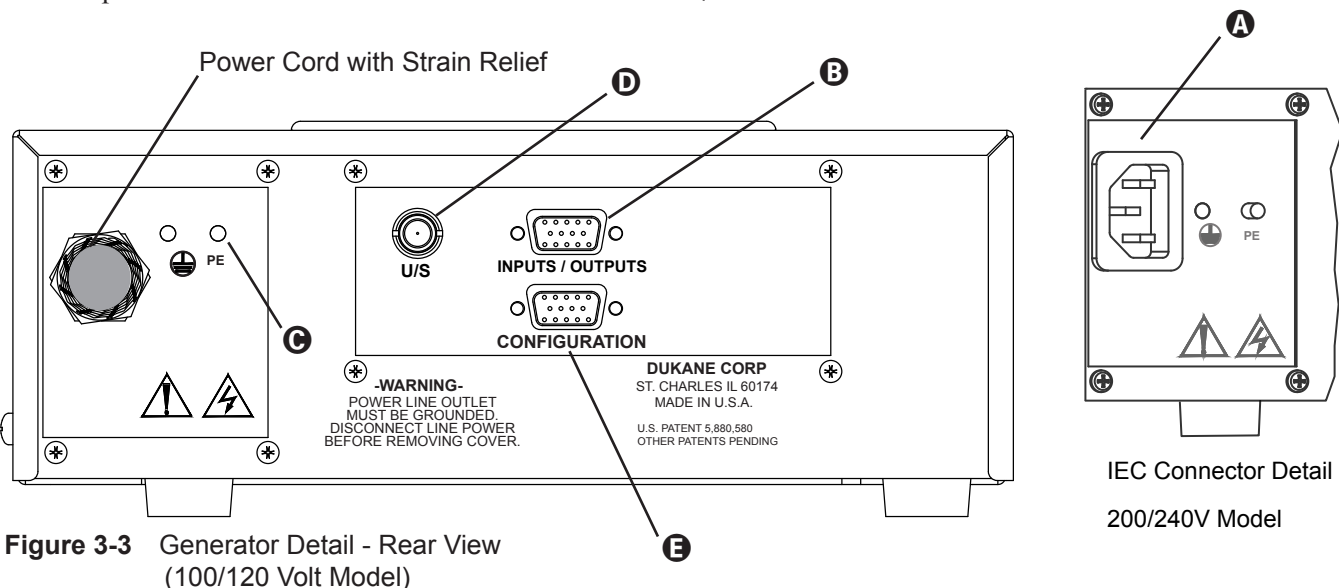

Figure 3-3 Generator Detail - Rear View (100/120 Volt Model)
The chassis grounding stud is used to attach a protective earth ground to the generator. This will aid in the suppression of electrical interference or radio frequency interference (RFI) that is common in a industrial environment. Stud location is shown in Figure 3-3 on the following page.
For the 200/240V model, attach the female end of the power cord to the generator's power inlet connector - **A** in Figure 3-3.
Step 2. Attach the I/O cable connector to the generator's input/output connection. - **B** in Figure 3-3. Secure the connector to the system using the two jack screws attached to the connector hood.
- Step 1. Ground the generator chassis using the supplied 14-Gauge wire, and attach it to the grounding stud: **C** in Figure 3-3.
- Step 3. Input/Output Cable - Attach the automation control cable from the user-supplied automation equipment to the system HD-15 connector, INPUTS/OUTPUTS on the rear panel: **B** in Figure 3-3.
- Step 4. Attach the high voltage coaxial cable from the probe to the ultrasound output connector, **D** in Figure 3-3.
- Step 5. Connect the AC power cord to the generator IEC power inlet connector, and plug the other end into an approved AC outlet: **A** in Figure 3-3.
This connector - **E** in Figure 3-3 - is a DB-9M (standard D-subminiature nine circuit, male) typically used for RS-232 serial communications. This serial port (DTE) connects to a serial port (DCE) on a computer via a standard 9-pin serial cable. If the computer does not have a serial port, you may use a USB-to-serial conversion cable.